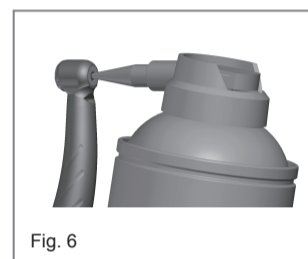

Fig. 6
4. To lubricate handpiece chucks, put Shaft Spray Nozzle into nozzle of the lubrication oil can and inject lubrication oil into the chuck (Fig. 6) for 1 second. It's recommended to lubricate chuck at least once a week and then proceed step 2.